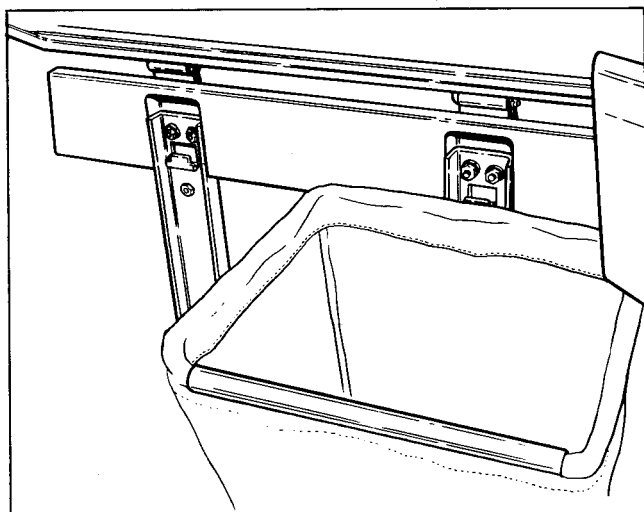

Figure 33.
12. Hang the bags onto the frame (figure 33) by hooking onto slotted bracket.